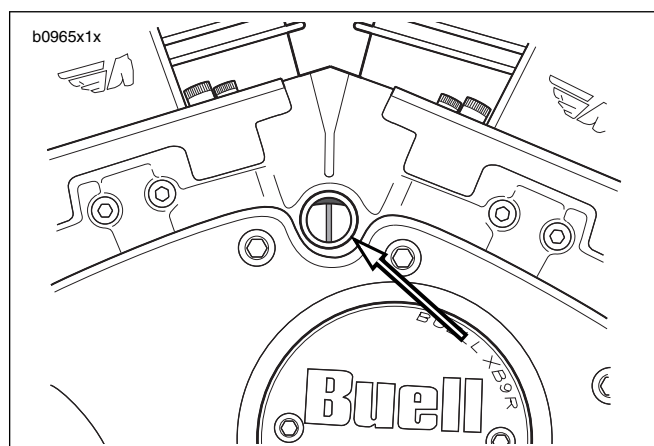

Figure 1-48. Correct Timing
- See Figure 1-48. If the static timing is correct, the screen will switch to HIGH - 5 volts at the precise moment the timing mark exactly centers in the inspection window.
1. See Figure 1-48. Remove timing plate cover.